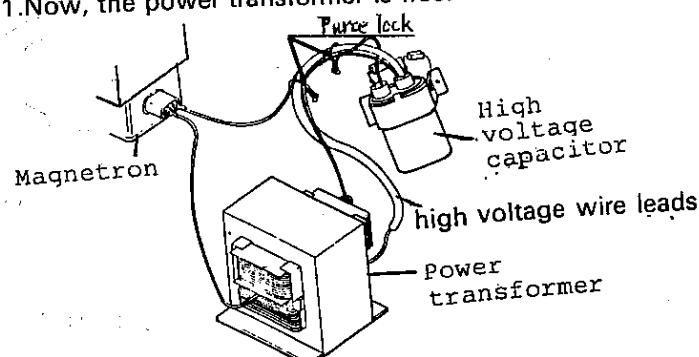

Figure C-1. The position of the purse locks
- 3. Remove the single (1) screw holding the noise unit angle, and release the single (1) tab of the noise unit angle from the rear cabinet.
- 4. Remove the single (1) screw holding the high voltage capacitor holder to the rear cabinet, and release the single (1) tab of the high voltage capacitor holder from the rear cabinet.
- 5. Remove the two (2) purse locks joining the high voltage wire leads together. (Refer figure C-1. the position of the purse locks.)
- 6. Reconnect the wire lead of the power transformer from the high voltage capacitor with the high voltage wire (B).
- 7. Reconnect the wire lead of the power transformer from the "J" type tab terminal of the high voltage wire (B).
- 8. Disconnect the high voltage wire (A) from the power transformer.
- 10. Remove the two (2) screws and the single (1) washer holding the power transformer to the base plate.